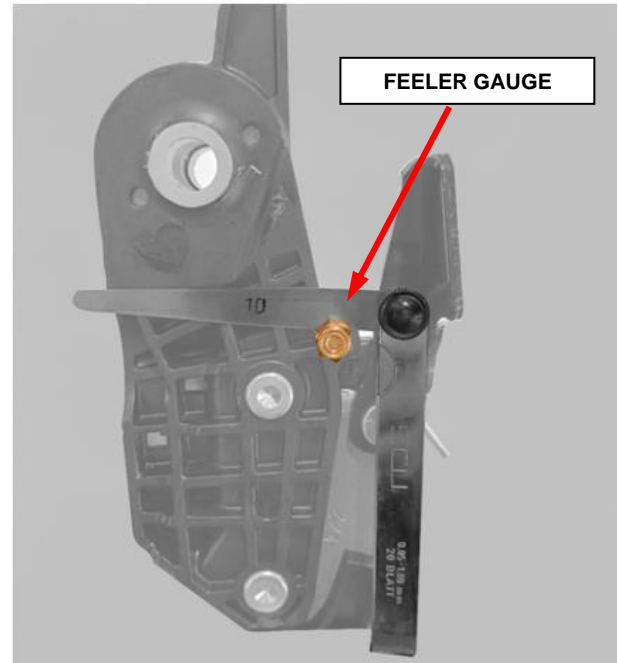

Figure 3 – Feeler Gage
6. Tighten the nut using a 1mm feeler gage as shown (Figure 3).